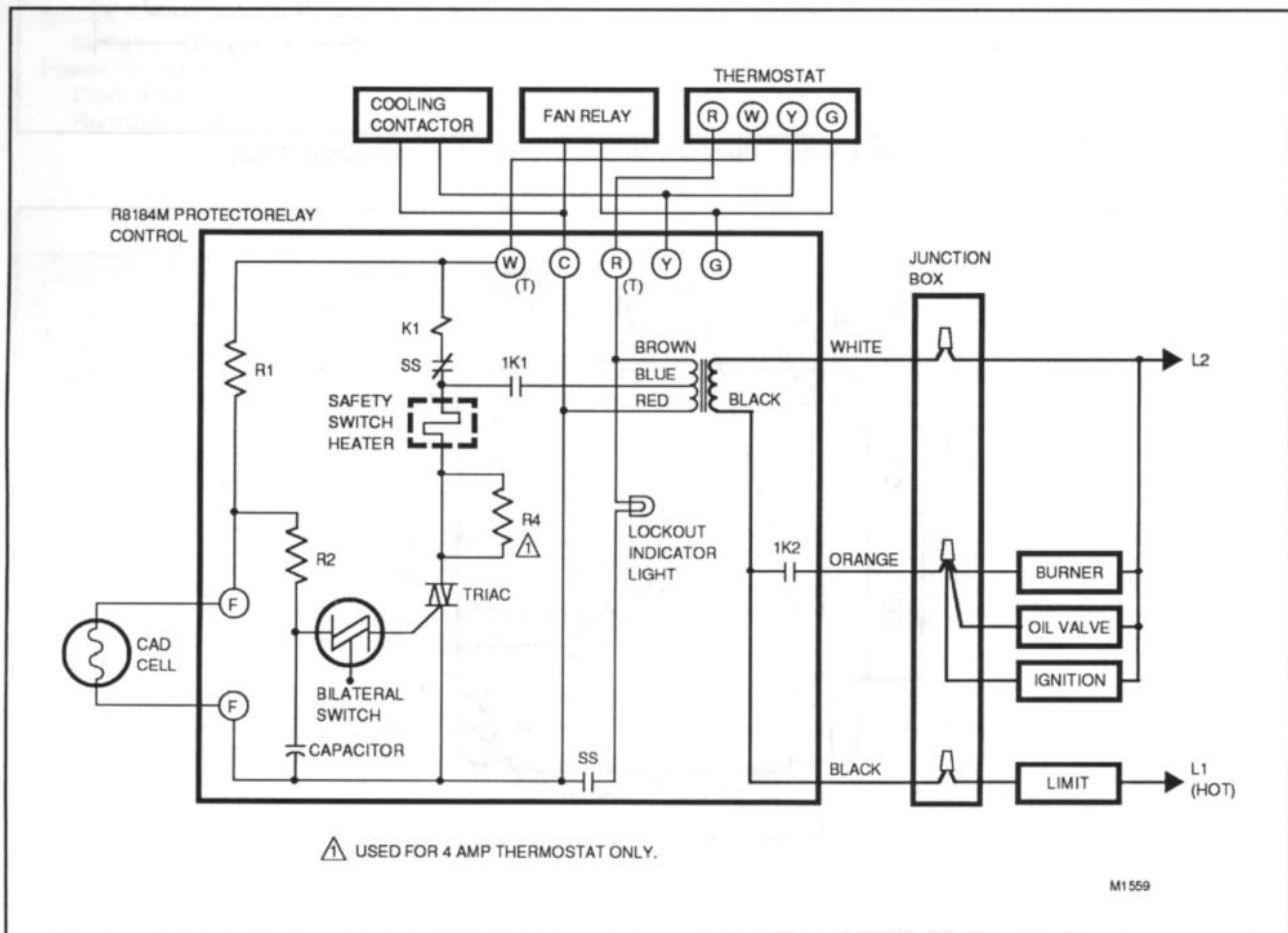

FIG. 3—WIRING DIAGRAM OF R8184M WITH LOCKOUT INDICATOR LIGHT.
2. Make line voltage connections as shown in Fig. 3.
5. Connect all remaining low voltage wiring connections as shown in Fig. 3.